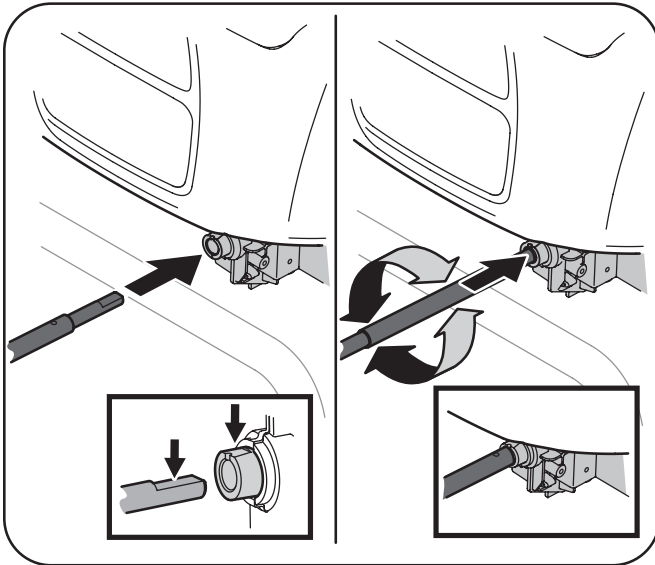

Figure 3-8
5. Insert the other end of the chute control rod into the coupler below the handle panel. Make sure to line up the flat side of the rod and the flat side of the coupler. You may need to rotate the rod around until these two surfaces line up. See Figure 3-8 inset.